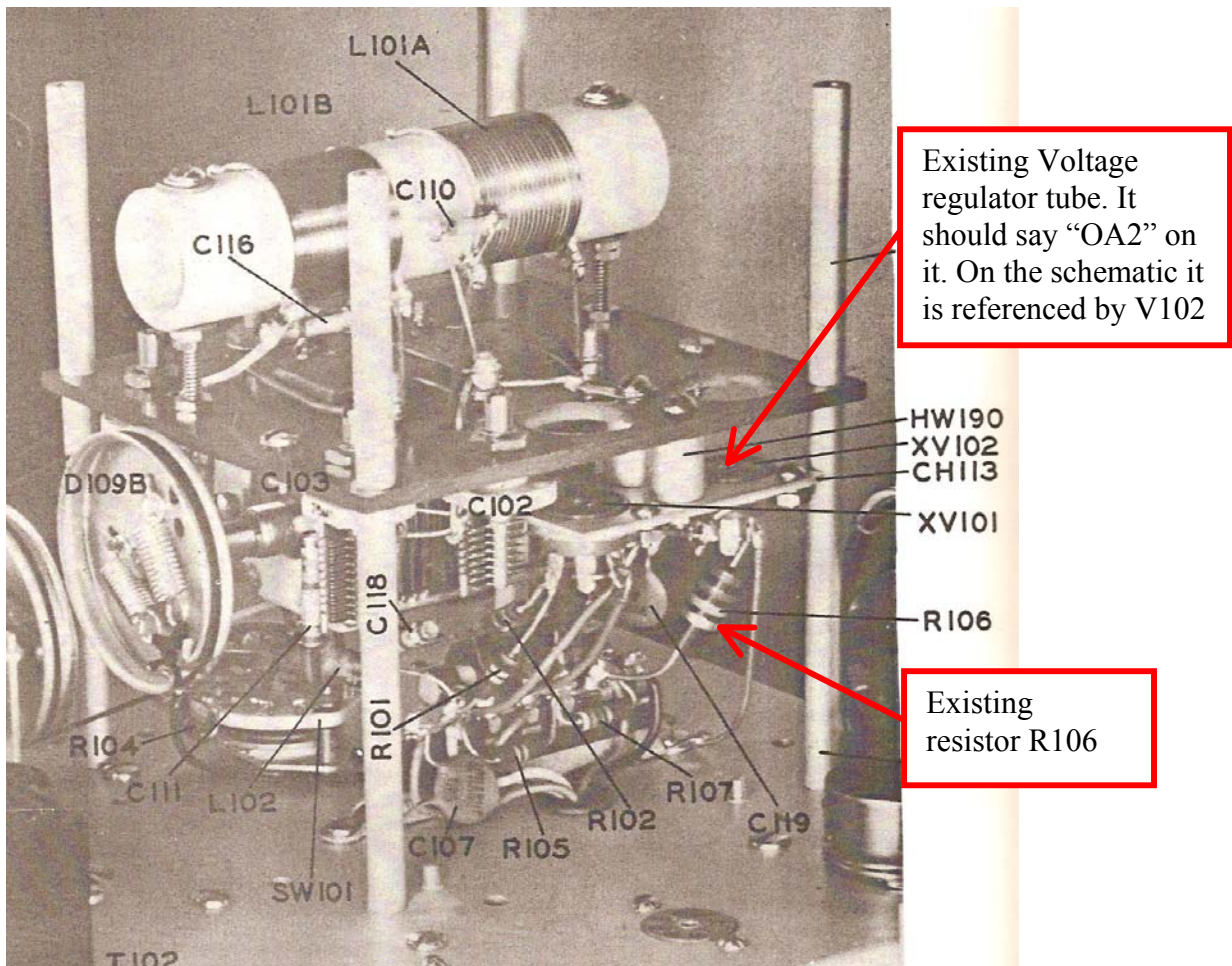

Figure 1. Johnson VFO compartment.
- 3) Remove the existing vacuum tube voltage regulator, as shown in Figure 1 below.
- 4) Remove the existing under-wattage resistor R106 as shown in Figure 1 below. Remember where it connected to the tube socket where both sides of the resistor were connected.